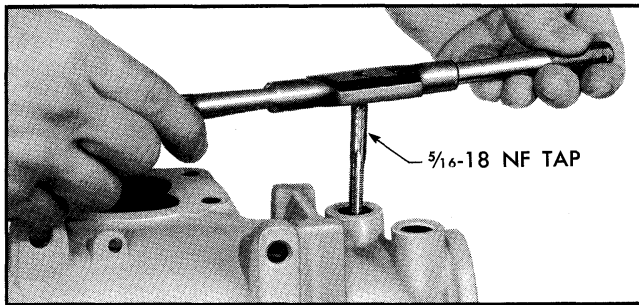

Fig. 9A-18 Tapping Connector Hole
7. If connectors are to be removed, tap threads in holes of connectors using 5/16-18 NF tap. See Fig. 9A-18.